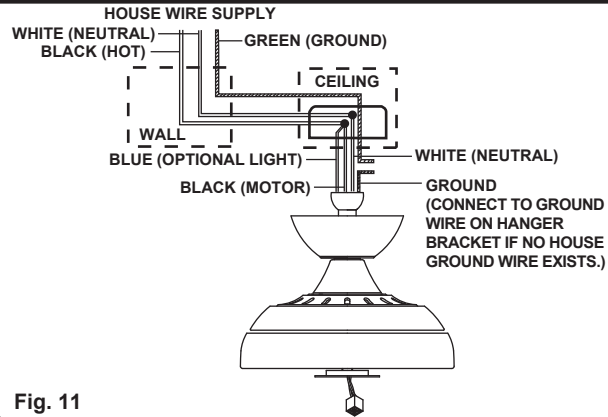

Fig. 11
Step 1. Connect the black (hot) wire from the ceiling to the black and the blue wires from the fan. Connect the white (Neutral) wire from the ceiling to the white wire from the fan. (Fig 11)
Step 2. If your outlet has a ground wire (Green or Bare Copper) connect the fan ground wires (on hanger ball and hanger bracket) to it; otherwise connect the fan ground wire on hanger ball directly to the hanger bracket (Fig. 11)